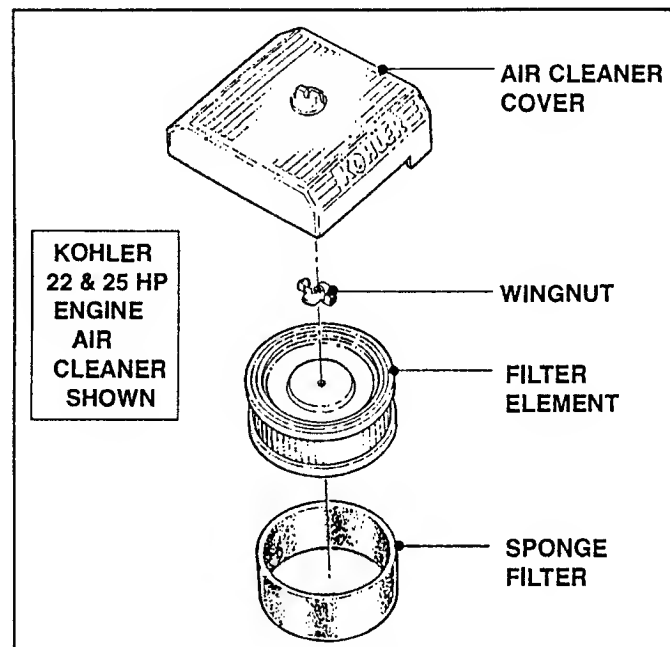

FIGURE 4.1
1. Inspect filter during every engine service or every 25 operating hours (more often if mower is used under extremely dirty or dusty conditions). See Figure 4.1.